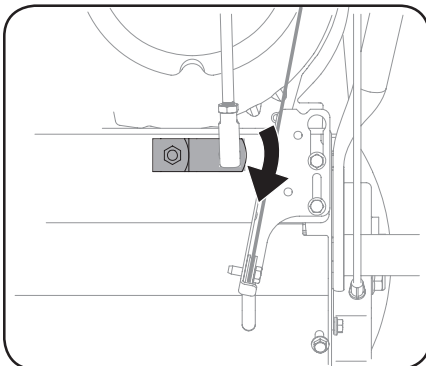

Figure 4-8
3. Pivot shift bracket downward as far as it will go. See Figure 4-8.